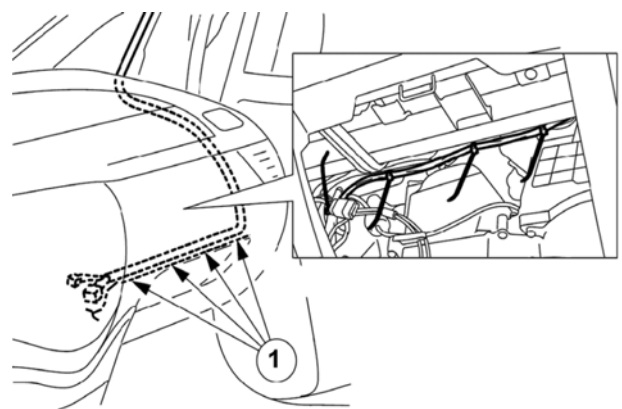

FIGURE 42
- 9.) BEING CAREFUL OF SHARP METAL, ROUTE THE REMAINING HARNESS THROUGH THE BOTTOM OF THE A-PILLAR, THROUGH THE GLOVE BOX OPENING AND INTO THE RADIO OPENING. SECURE THE HARNESS USING FOUR TIE WRAPS (1) IN THE LOCATIONS INDICATED. (SEE FIGURE 42)